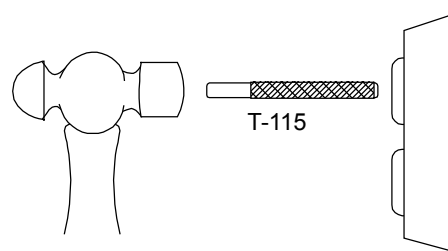

Figure 3.3.1A
- E. Strike the T-115 tool firmly with a hammer (See Figure 3.3.1A).